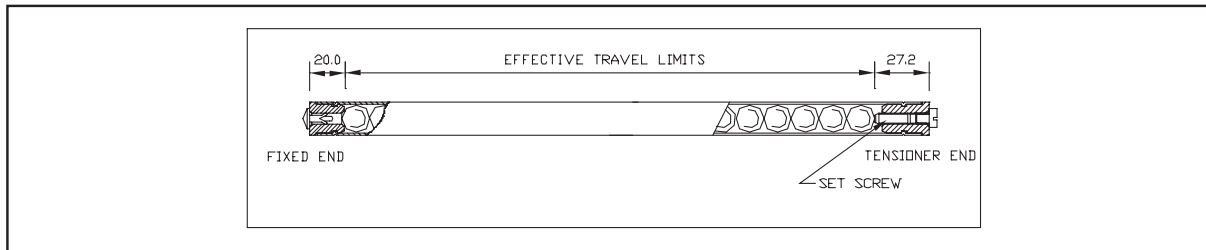

Figure 6.1 - SHG Scale
- (A) Erroneous readings will occur if the *Digital* Reader Head is allowed to travel beyond the Effective Travel Limits. (Refer to Figure 6.1)
- (B) The pre-load on the balls are factory set via the set screw at the tensioner end. Do not tamper with or adjust the set screw as this will alter the calibration and accuracy specification of the scale. (Refer to Figure 6.1)
- (C) When mounting scales in the vertical plane the tensioner end should be positioned at the top.